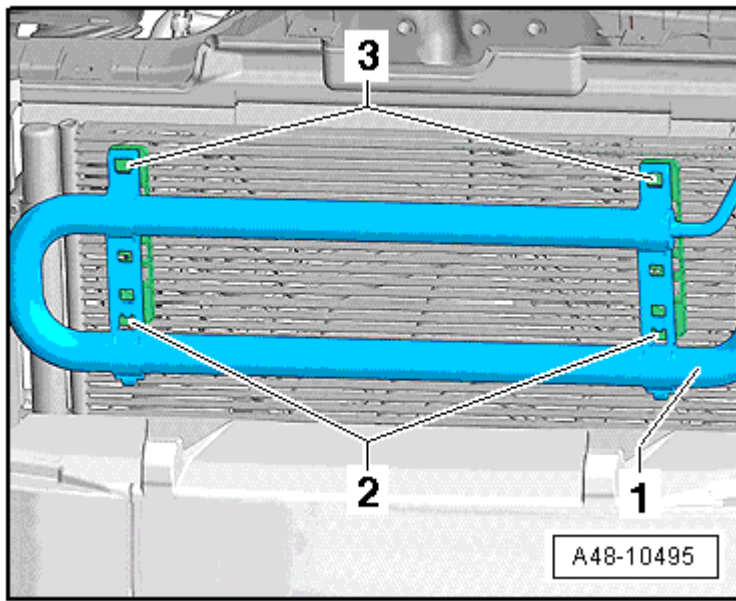

Fig. 43: Hydraulic Oil Cooler To Condenser
4. Hydraulic oil cooler to condenser, refer to **Fig. 43**